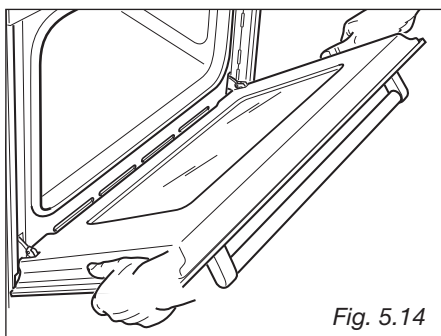
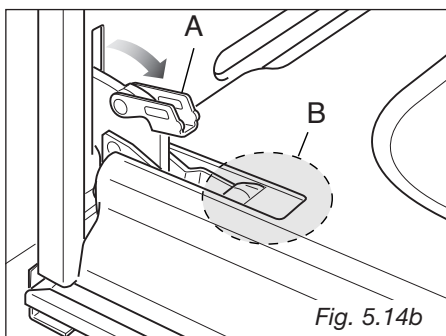

Fig. 5.14
Fig. 5.14b
- Open the lever “A” completely on the left and right hinges (fig. 5.14b).
- Hold the door as shown in fig. 5.14.
- Gently close the door (fig. 5.14) until left and right hinge levers “A” are hooked to part “B” of the door (fig. 5.14b)
- Hold the door firmly (fig. 5.14).